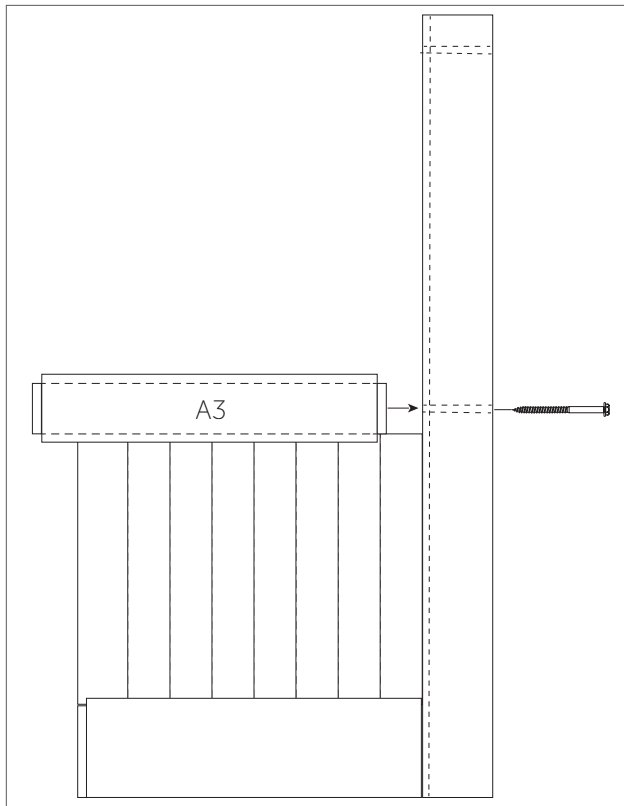

Figure 3
3. Slide the center rail (A3) lower groove over the top of the lower slats. Tap with a rubber mallet into the right side stile. Attach the middle rail to the right side rail using a socket wrench with a 7/16" socket and one lag screw (D) (Figure 3).